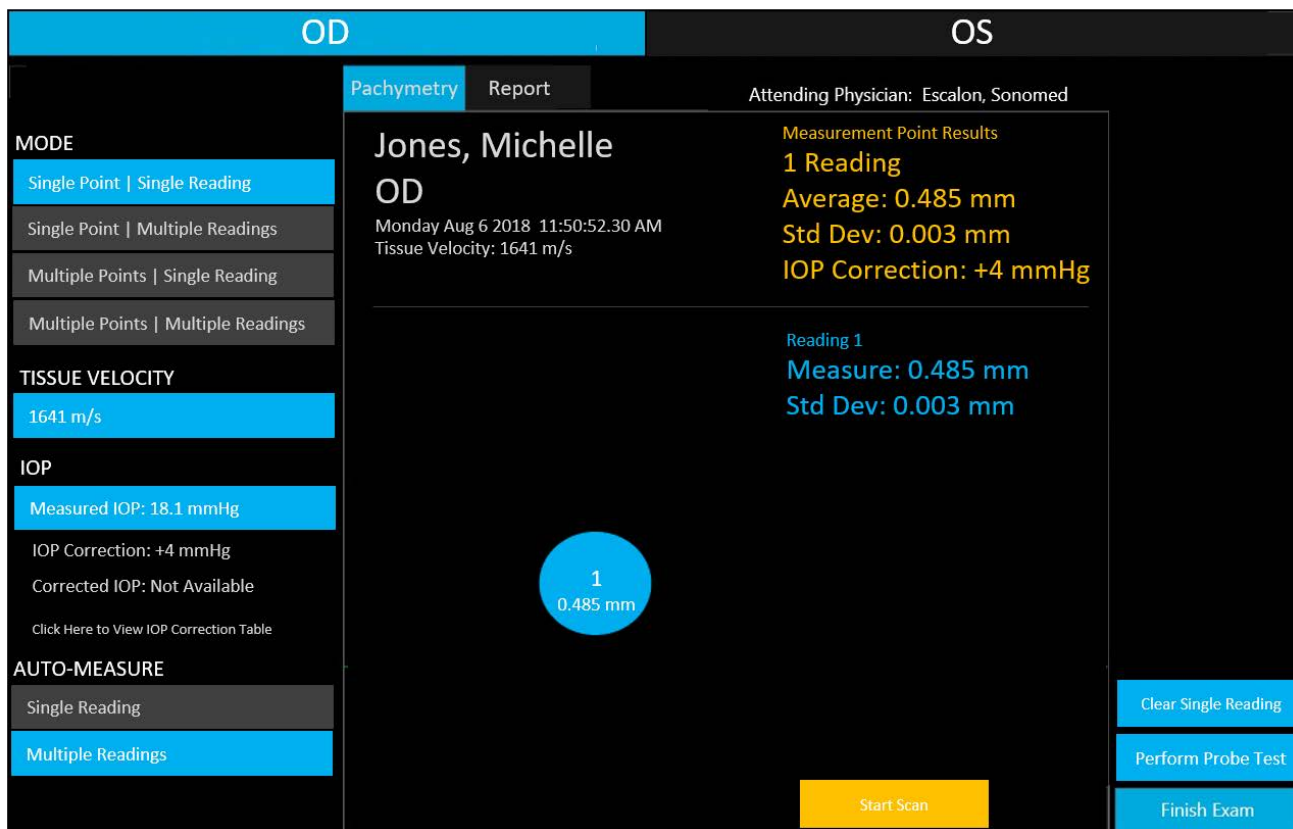

Fig. 13
- ① Select desired exam mode option: (Figures 13 and 14)
- ② Confirm Tissue Velocity is appropriate; tap to change as desired.
- ③ Enter measured IOP if corrected IOP based on corneal thickness is desired.
- ④ Select whether a single or multiple points should be automatically taken once system scan criteria are met.
- ⑤ Select “SCAN” button to start scan (or press foot pedal).
- ⑥ Repeat, as necessary, to measure all desired points. Readings can be cleared and repeated, if necessary.